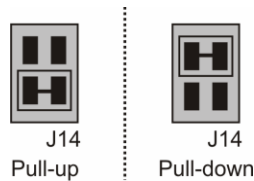

Figure 10. J14 configuration
3. Configure jumper J14 for either pull-up or pull-down configuration (refer to Figure 10).